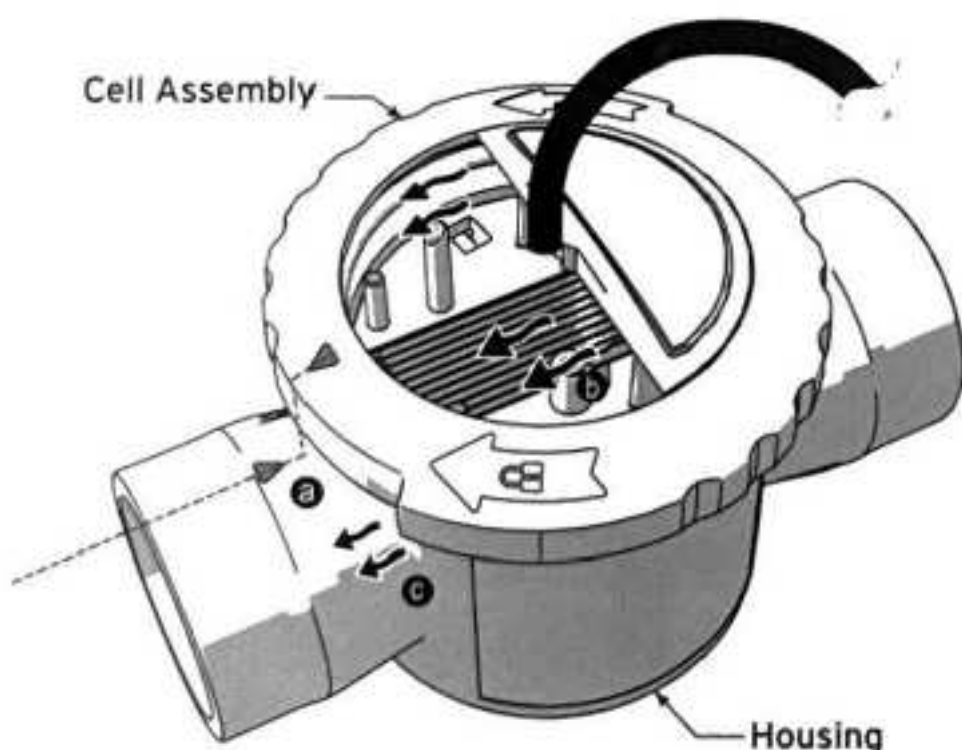

Figure 4. Proper Cell Alignment
3. Ensure that the arrow position markers are aligned. See Figure 4.a
4. Check that the flow indicators on the cell are in line with the flow indicators on the cell housing. See Figure 4.b and 4.c.